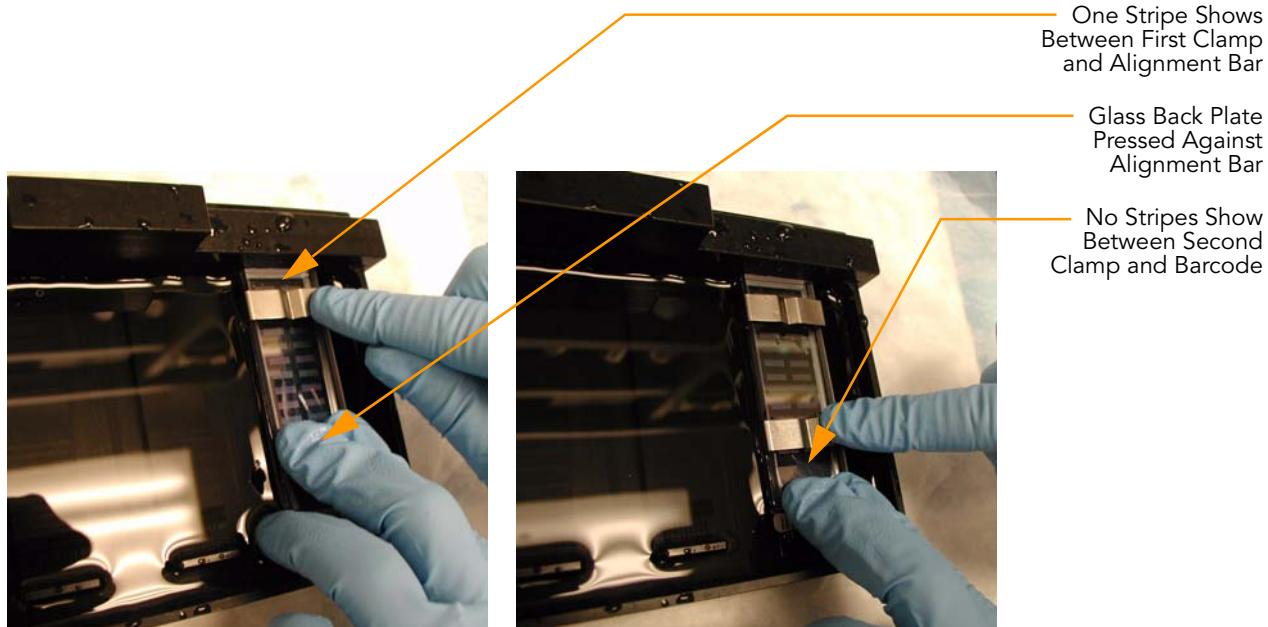

Figure 133 Securing Flow-Through Chamber Assembly with Metal Clamps
7. Attach the metal clamps to the Flow-Through Chambers as follows (Figure 133):